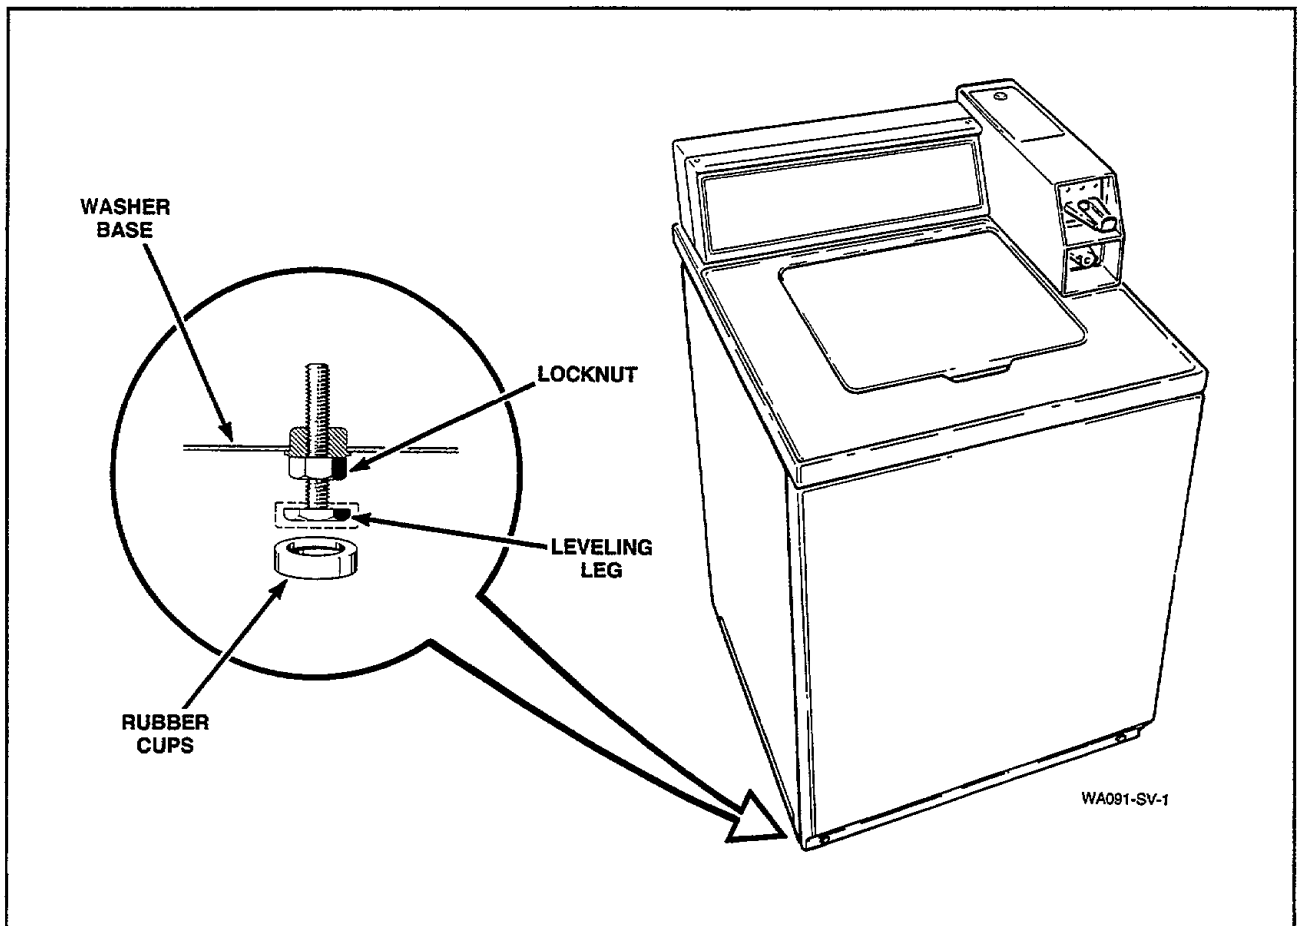

Figure 53
39. LEVELING LEGS (Refer to *Figure 53*)